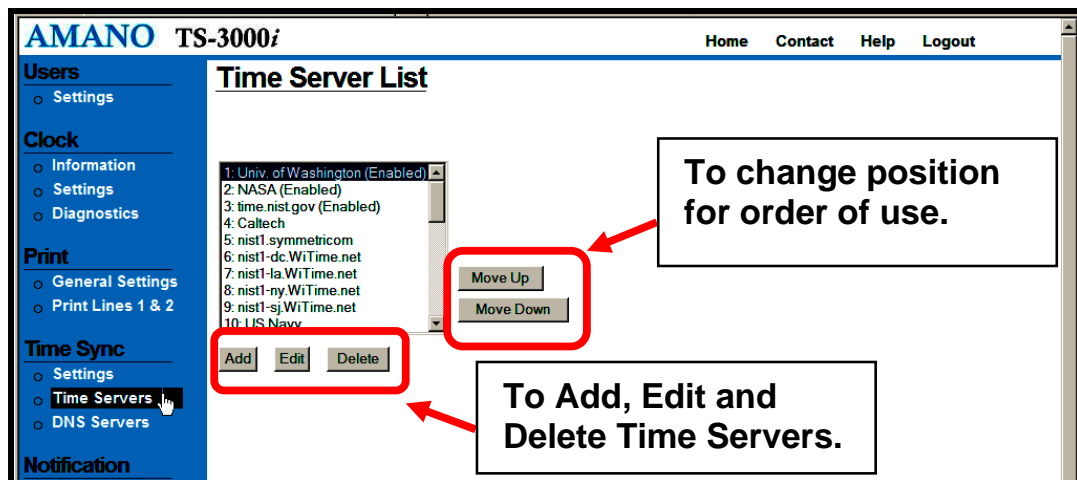

Figure 4-12: Time Server List
- Step 1.** Click on the **Time Servers** link under **Time Sync**, and the **Time Server List** screen will appear (see *Figure 4-12*). The TS-3000i Web Clock provides 18 default Stratum 1 NTP servers for the user. Additionally, the user can add up to 14 additional time servers for a total of 32 time servers. The user can not delete any of the 18 predefined time servers, but any user created time server can be deleted. The time server order signifies the order that they will be tried for time synchronization, i.e., number 1, then number 2, etc.